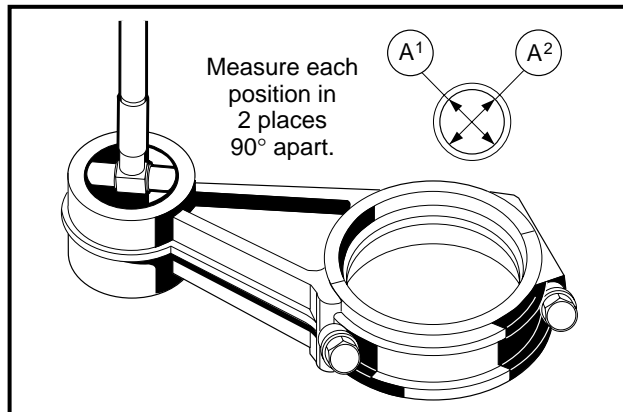

Figure 13-57 Measure Connecting Rod Small Bore I.D.
2. Using a telescoping gauge, measure the inside diameter of the connecting rod small bore at several points along its length (**Figure 13-57, Page 13-29**).